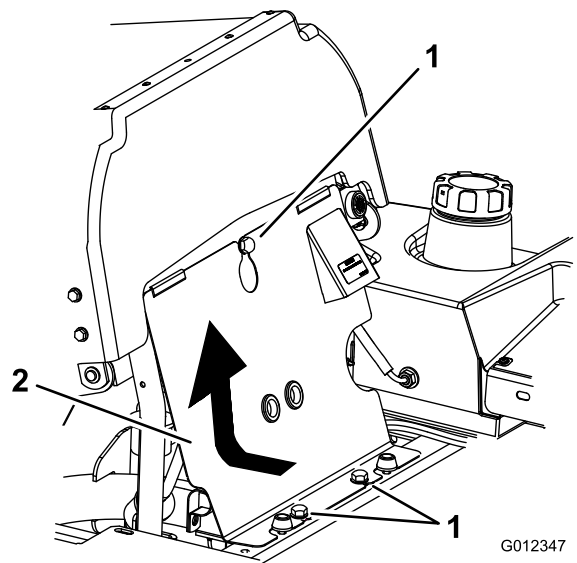

Figure 62
3. Tilt the seat forward, loosen the bolts, and remove the front engine panel (Figure 62).